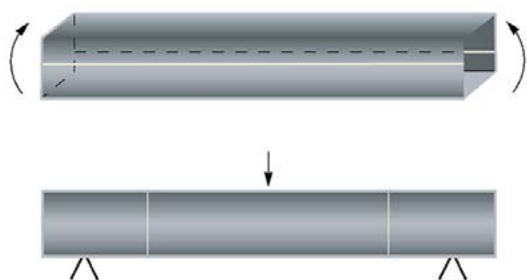

Fig. 3. Weld in a low stress area
- when the weld is in a low stress area, see figure 3,